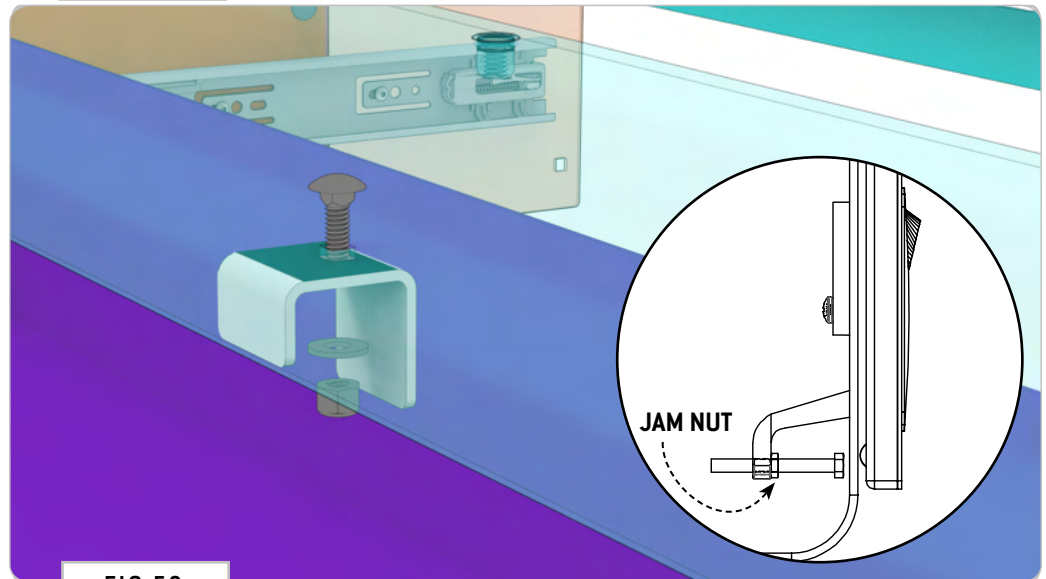

FIG 58
**3.12 Attach Drawer Catch to Front Support:** Slide out the **Drawer** to expose the mounting hole that will be used to attach the **Drawer Catch** to the **Front Support**. Secure in the orientation shown using **(1) 1/4-20 0.75 Square Neck Carriage Bolt, Flat Washer and Nylon Locknut (FIG 58)**.